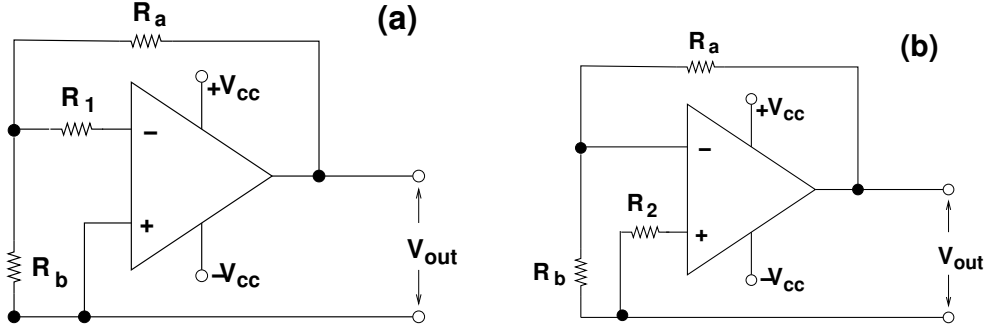

Figure 3: Circuits to measure input bias currents I_{b1} and I_{b2} , respectively.
Fig. 3(a) is just the circuit for an inverting amplifier, with the input grounded. So, the voltage at the inverting input terminal should be ideally zero. But from the circuit above, one can see that the voltage at the inverting input has two contributions - one, V_{out} reduced by the potential divider made out of R_a and R_b , i.e., $\frac{R_b}{R_a+R_b}V_{out}$ - two, the voltage drop over the R_1 if there is a non-zero input bias current flowing. Thus, we can write
Input bias current I_{b2} can be similarly measured using the circuit in Fig. 3(b), which represents a non-inverting amplifier, with the input grounded through the resistor R_2 . The voltage at the non-inverting terminal would be $I_{b2}R_2$, which gets amplified to give V_{out} . Using the relation for non-inverting gain, one can write
2. Hook up the circuit shown in Fig. 3(a), by choosing R_1 to be 1M and connecting the loose end of R_1 (1) to the middle of the potential divider in the output (8).
5. Next, hook up the circuit in Fig. 3(b) by choosing R_2 to be 1M, and connecting the inverting input to the middle of the potential divider (8).